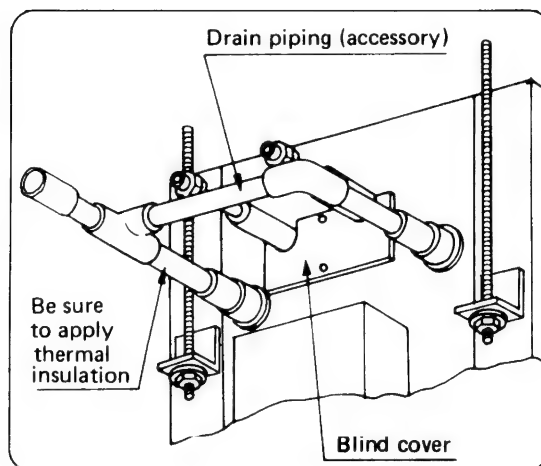

Fig. 16
- Connect up the PVC pipe connectors and straight pipe provided (indicated by solid lines) to the connection outlets on the unit body. Fig. 16